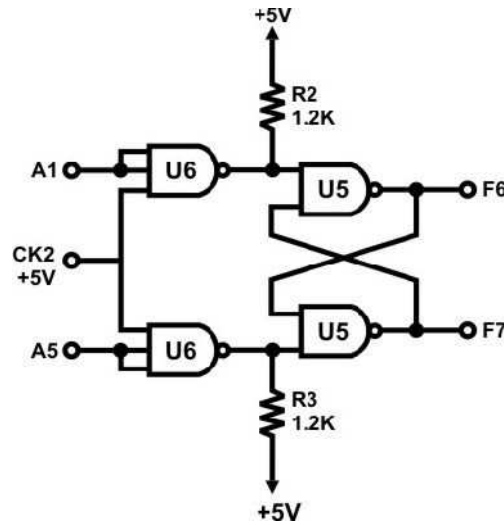

Figure 5.11: RS Latch with control input.
1. Use the KL-33008 module to connect the circuit shown in Figure 5.11.